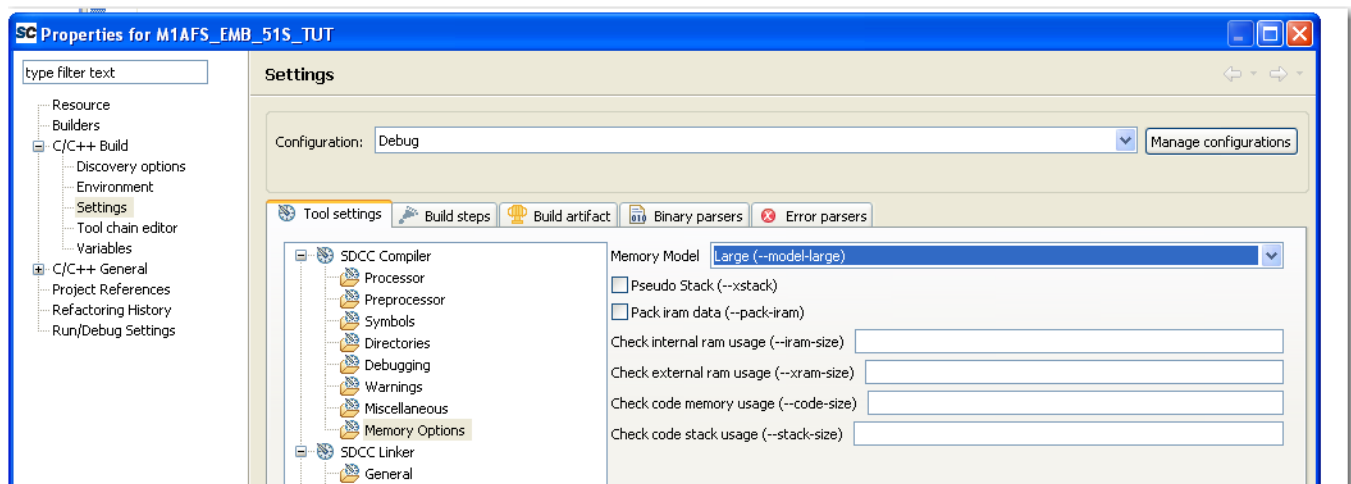

Figure 1-6 · Setting Memory Model for SDCC Compiler Memory Options
1. Select the memory model by right-clicking on the project name and selecting **Properties** from the pull-down menu. Expand C/C++ Build. Click Settings. Click on **Memory Options** under SDCC Compiler. In the Memory Model box, select **Large (--model-large)** for this tutorial project (Figure 1-6).